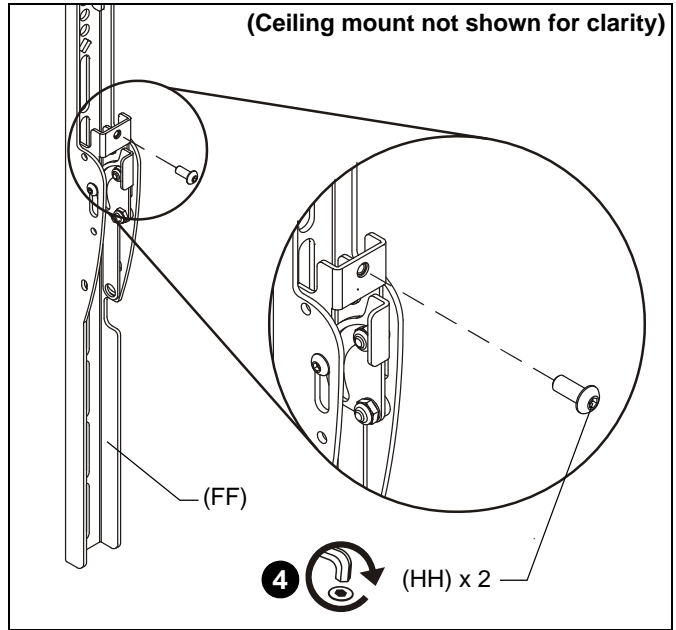

Figure 8
4. Fasten bracket against ceiling mount extrusion using one 10-24 x 5/8" button head cap screw (HH). (See Figure 8)